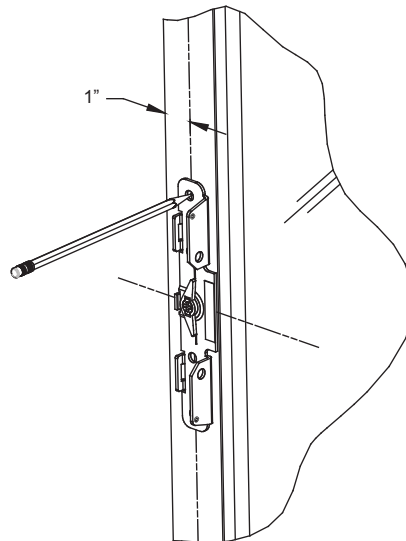

Fig. 3
4. Place back plate on door stile. Use the 1" line and center holes (a & e) on back plate. Align cam center to mark "d" for proper height. (See Fig. 3)